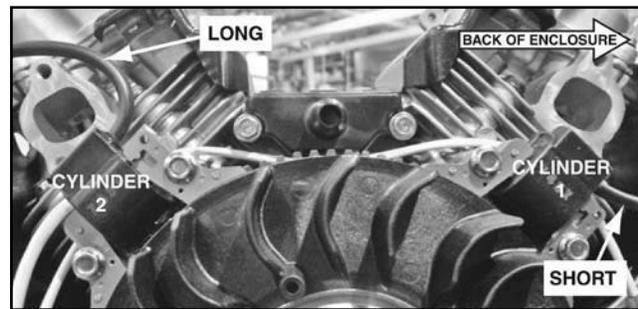

Figure 38.
4. When installing new magnetos there will be one with a short plug wire and one with a longer plug wire (Figure 38).